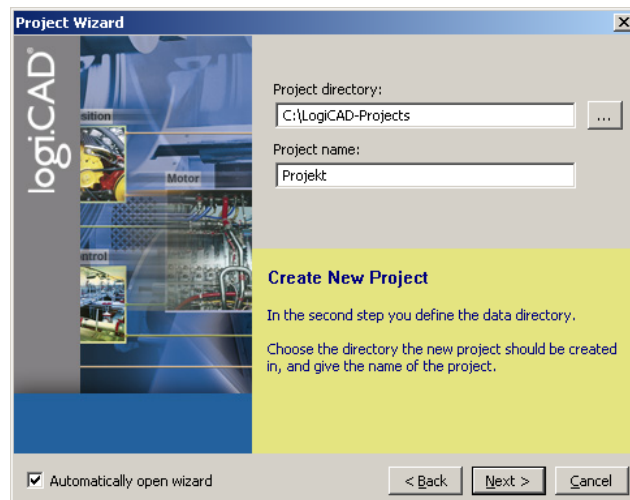

Figure 51: Project name and path
5. Specify the name of the project and the path where to store the project files, see Figure 51.